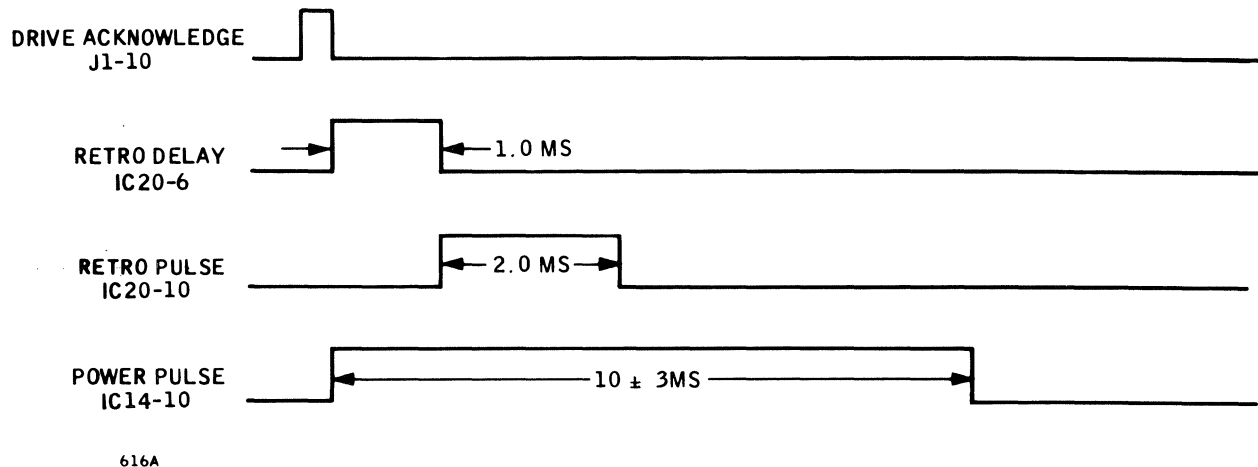

Figure 4-8. Stepper Motor Driver Logic Waveforms
5. Stepper Motor Driver Logic Adjustments (figure 4-8)
- a. Load the metalized-Mylar tape loop (item 5 of table 4-2) and operate in the step mode.